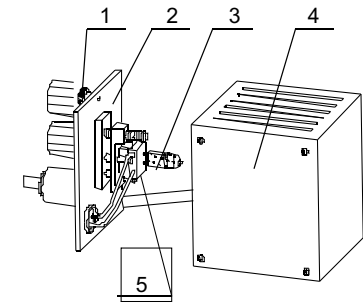

Figure 9
2. Loosen the set screw, see figure 9, remove the entire cover board from the lamp house.